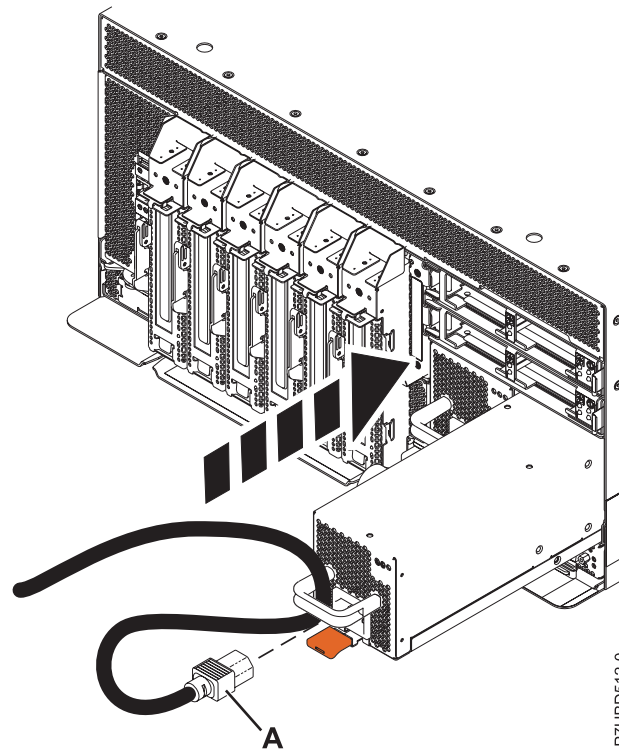

Figure 4. Replacing a power supply
2. Align the power supply with the bay and slide the new power supply into the system until the latch locks in place, as shown in Figure 4.
3. Reconnect the power cable (A) to the power supply, as shown in Figure 4.